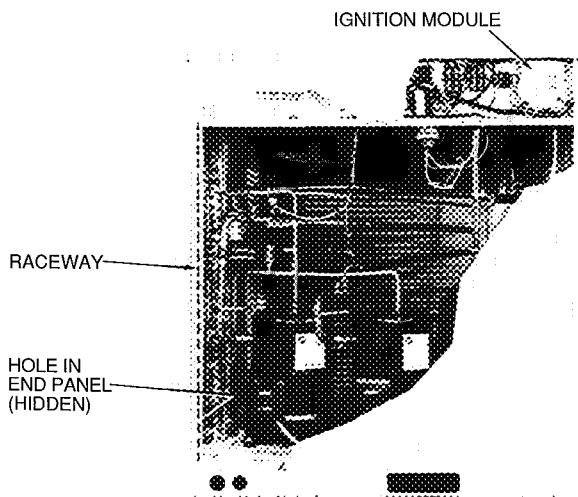

Fig. 11 — Field Control Wiring Raceway
3. Feed wires through the raceway built into the corner post to the 24-v barrier located on the left side of the control box. See Fig. 11. The raceway provides the UL-required clearance between high- and low-voltage wiring.